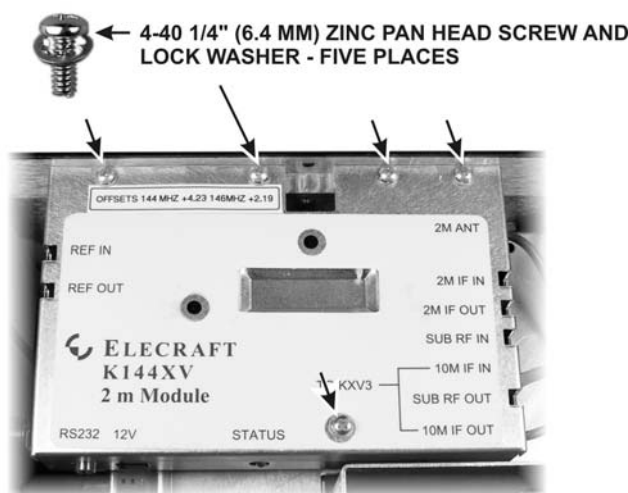

Figure 2. Removing the K144XV 2 Meter Module.
- ☐ The K144XV module is mounted on the left side panel of the K3. Remove the five screws shown in Figure 2 and lift the top cover off of the module. Note: Some units may have a sixth screw in the hole near the Elecraft name on the top cover that must be removed.